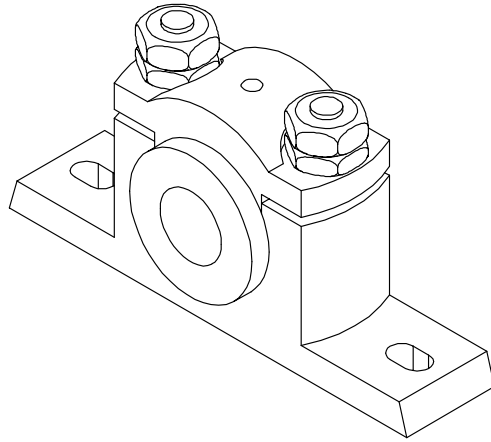
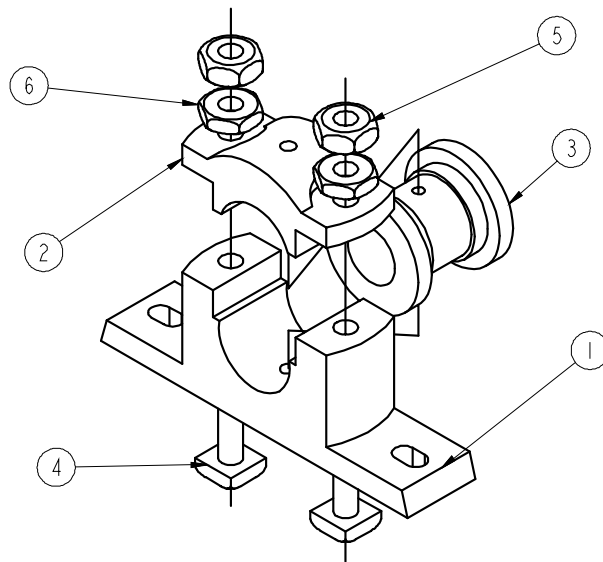
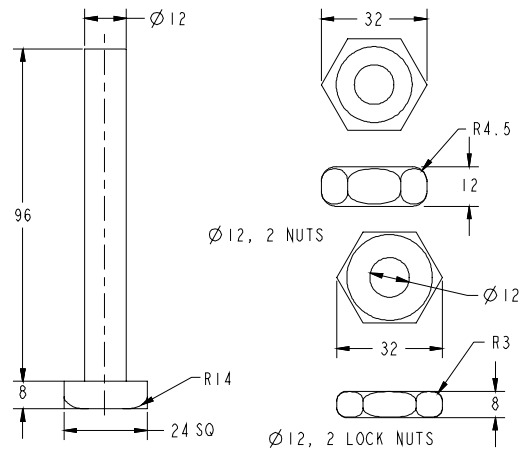

Figure 9-56 Assembly of the Pedestal Bearing
Figure 9-57 The exploded state of the Pedestal Bearing
Figure 9-62 Dimensions for the components of the assembly
In this tutorial you will create all the components of the Pedestal Bearing assembly and then assemble them as shown in Figure 9-56. You will also create the exploded state shown in Figure 9-57 displaying the offset lines. The BOM is shown in Figure 9-58. The dimensions of the components are shown in Figure 9-59 through Figure 9-62.
4. Select the top face of the Casting as the first mating face. Now, use the CTRL+ALT+middle mouse button to rotate the Cap and then select the lower flat face of the Cap as the other mating face as shown in Figure 9-62.
7. Select the axis of the left hole on the Casting as the first aligning axis and then select the axis of the left hole on the Cap as the second aligning axis as shown in Figure 9-62.